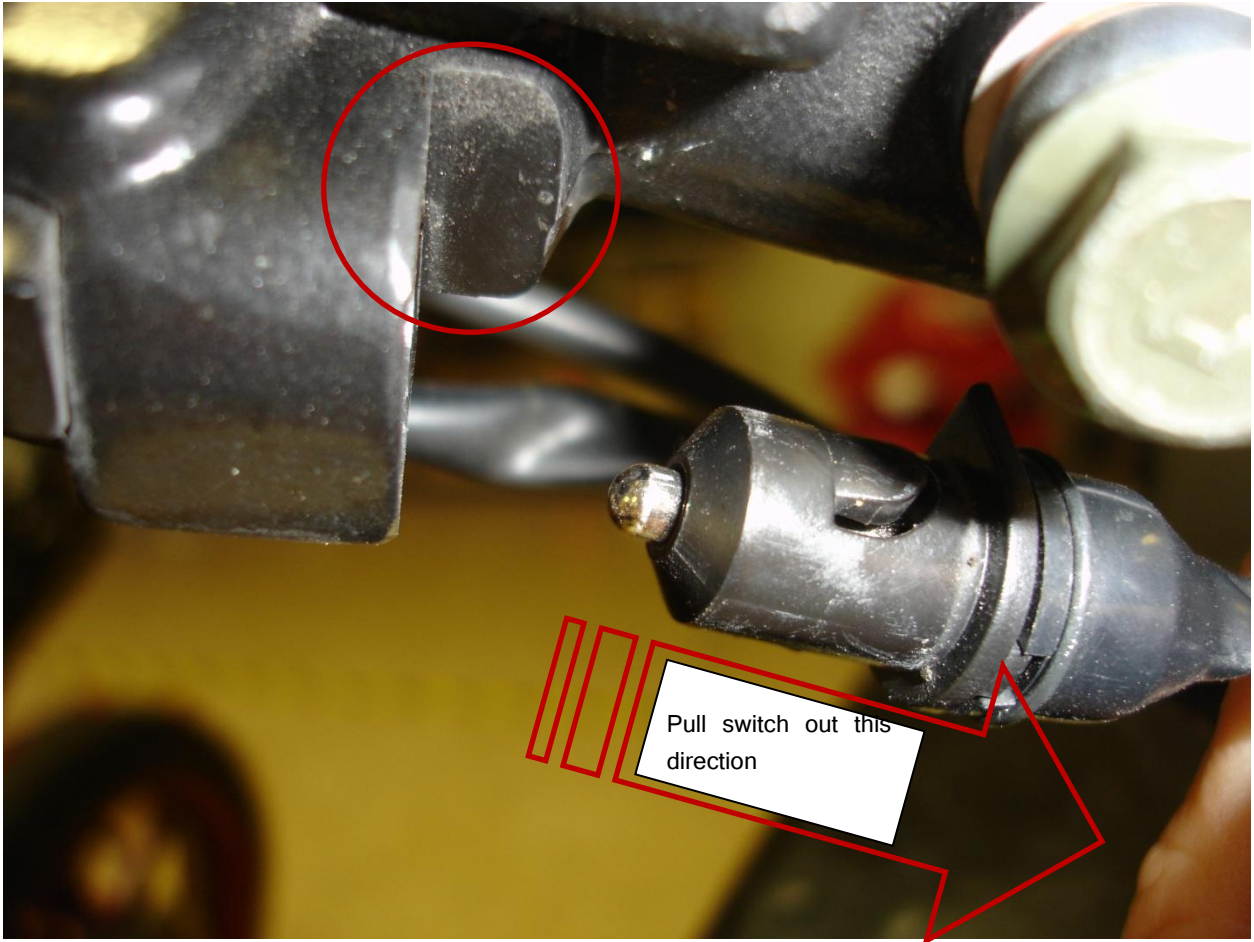

Figure 8
9. Apply light pressure pulling the switch out of its socket. The switch should pop out with relative ease at this point. See FIGURE 8.
- a. The flat side of the brake light switch should match up with the flat side on the master cylinder housing. See circled region in FIGURE 8 and 9.